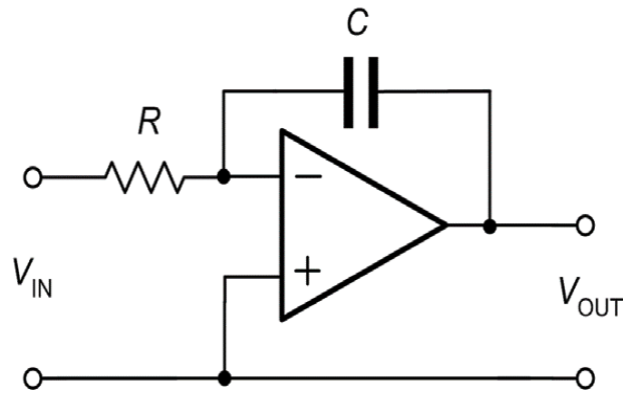

Figure 1.44 An integrator
- An integrator using an operational amplifier is shown in Fig. 1.44.